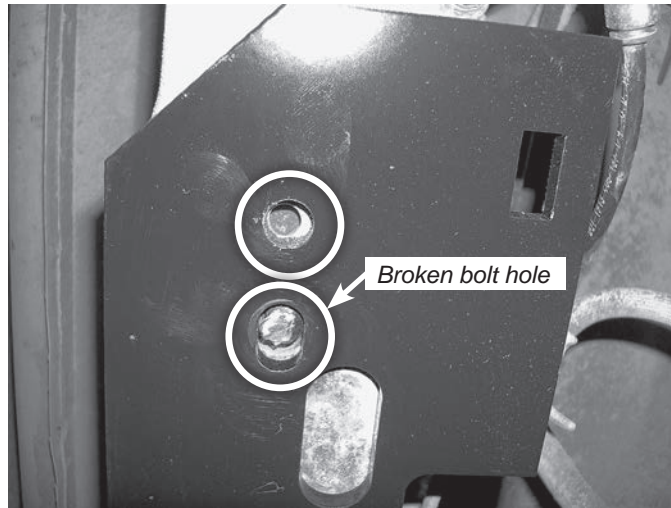

fig. 5
2. Center punch and drill a 5/16" hole in the center of the outside hole next to the broken bolt hole (Fig. 5).